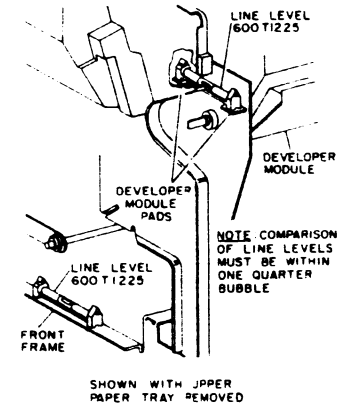

Figure 3. Comparison of Levels
2. POSITION A LINE LEVEL 600T1225 ON FRONT FRAME AND ON DEVELOPER MODULE (FIGURE 3).